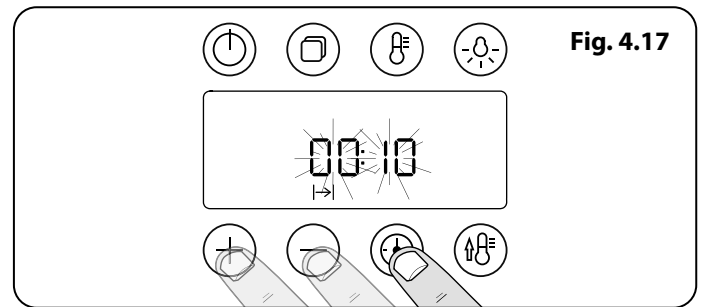

Fig. 4.17
- Touch and hold the 'timer' button until the cook period symbol [⌚] is displayed (Fig. 4.17). Set the hours using the [+] or [-] buttons.
- Touch and hold the 'timer' button until the cook period symbol [⌚] is displayed. Set the hours using the [+] or [-] buttons. Tap the timer button again to set the minutes using the [+] or [-] buttons (Fig. 4.17).